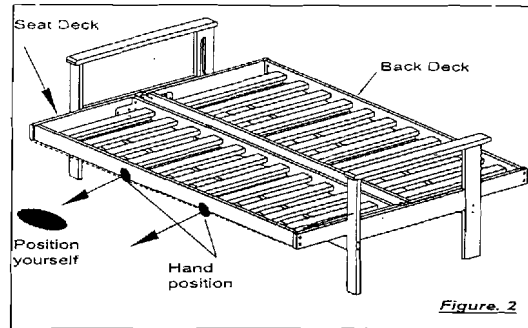

Figure 2
2. Pull the front long rail forward to unlock the safety lock. (figure 2)